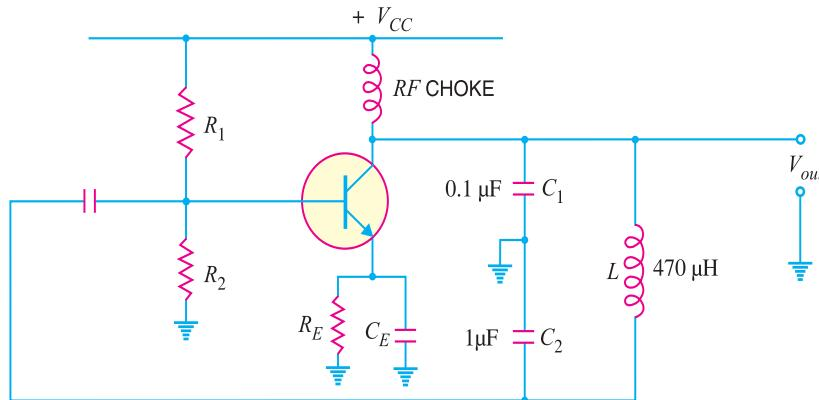

Fig. 14.24
- Figure 14.24 shows the Colpitt's oscillator. Determine the (i) operating frequency and (ii) feedback fraction.
- For the Colpitt's oscillator shown in Fig. 14.24, $C_1 = 750 \text{ pF}$, $C_2 = 2500 \text{ pF}$ and $L = 40 \mu\text{H}$. Determine (i) the operating frequency and (ii) feedback fraction.